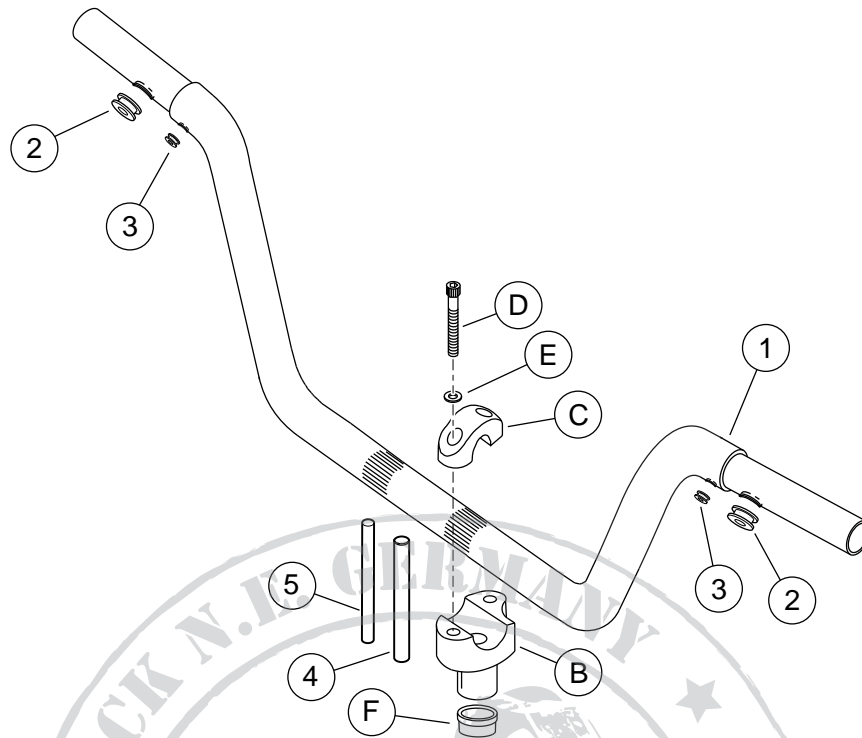

Figure 4. Service Parts
12. **For models with handlebar-mounted turn signals:** Insert the turn-signal grommets (3) into place in the turn-signal wire holes in the handlebar.
15. See Figure 4:
- b. Slide one piece of the larger diameter tubing (4) over the end of each switch-wire bundle exiting the center hole of the handlebar (1).
- c. **For models with handlebar-mounted turn signals,** slide one piece of the smaller diameter tubing (5) over the end of each turn-signal wire bundle exiting the center hole of the handlebar.
1. See Figure 4. Obtain a **new** Handlebar Riser Kit (A), purchased separately.
2. **For FXSTD models only:** Obtain two Riser Mount Spacers (F), purchased separately. Install the spacers into the bores in the upper fork bracket (triple clamp).
3. **For ALL models:** Install the new risers (B) onto the upper fork bracket using the saved hardware in the same sequence as removed. Snug the riser bolts, but do not fully tighten at this time.
5. Position **new** handlebar upper clamps (C) and install with **new** clamp screws (D) and flat washers (E). Snug the upper screws, but do not fully tighten.